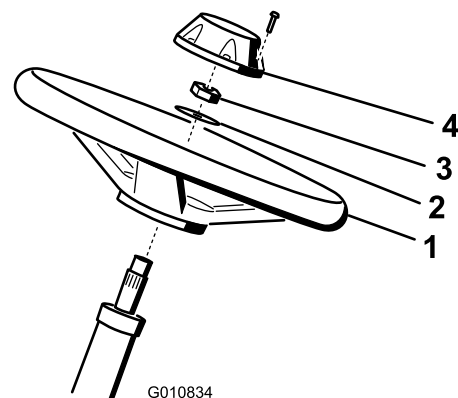

Figure 3
1. Slide the steering wheel onto the steering shaft (Figure 3).
2. Slide the washer onto the steering shaft (Figure 3).
3. Secure the steering wheel to the shaft with a jam nut and tighten it to 27 to 35 N·m (20 to 26 ft-lb) (Figure 3).
4. Install the cap to the steering wheel and secure it with a screw (Figure 3).